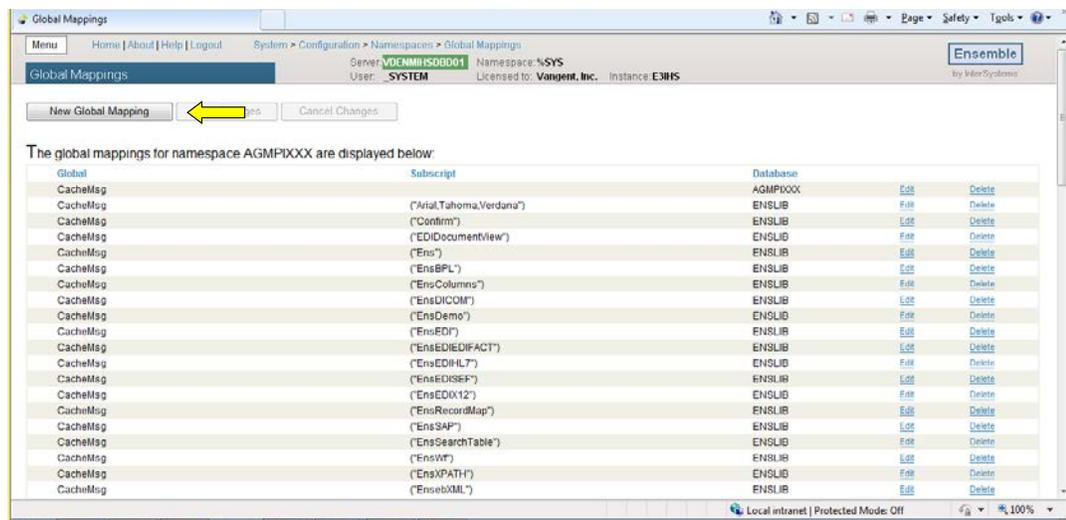

Figure 4-12: Creating a new global mapping on the **Global Mappings** page
2. On the **Global Mappings** page, click **New Global Mapping** to display the **Global Mapping** dialog box, as shown in Figure 4-12.